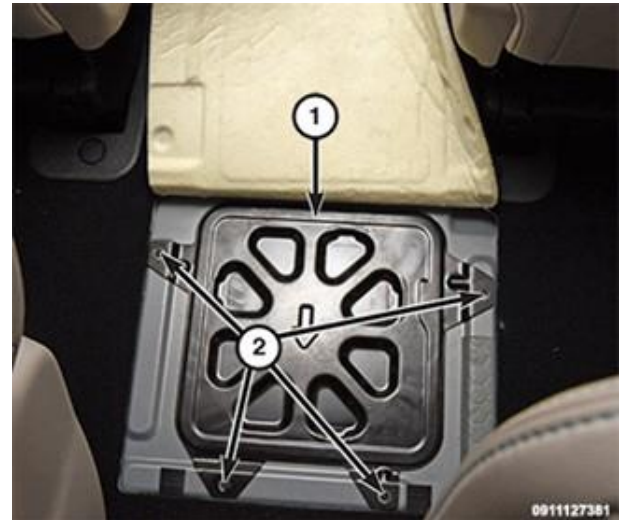

Figure 18 – MDS Floor Access Cover
27. Lift the carpet away from the high-voltage Manual Service Disconnect (MSD) floor access cover (Figure 18).
28. Remove the four screws (2) and remove the high-voltage MSD access cover (1) (Figure 18).